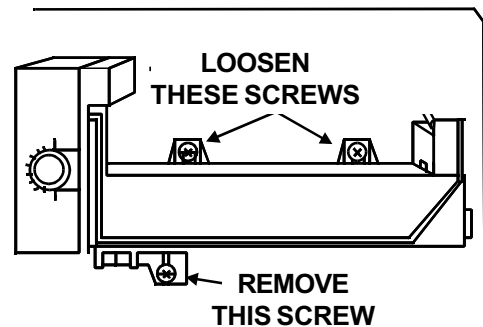

Fig. 12
2. Loosen the two (2) screws in the slotted brackets at the top of the automatic ice maker three or four turns. (These screws must be removed if the evaporator cover is to be removed.) (Fig. 12)